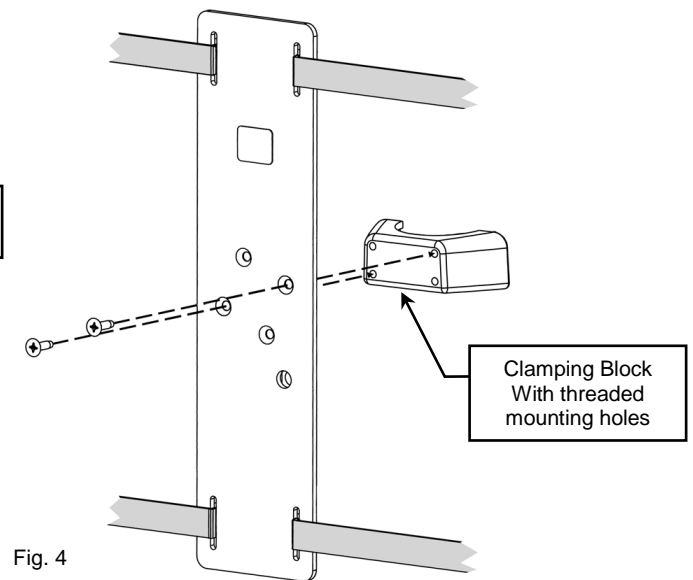

Fig. 4
2. Attach the Clamping Block with threaded mounting holes to Power Strip Mount with the (2) mounting screws removed in previous step (Fig. 4).